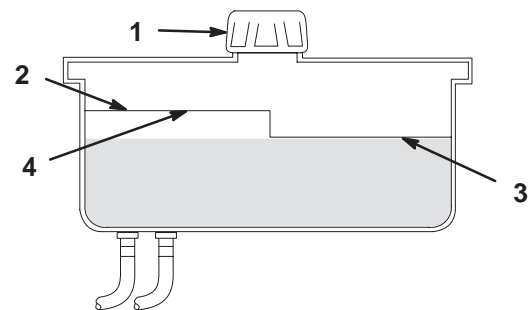

Figure 49
- Clean the area around the filler neck of the hydraulic tank (Fig. 49).
- Remove the cap from the filler neck. Look inside to check if there is fluid in the reservoir (Fig. 49).
Note: The fluid level should be to the top of the *hot* level of the baffle, when the fluid is warm (Fig. 49).